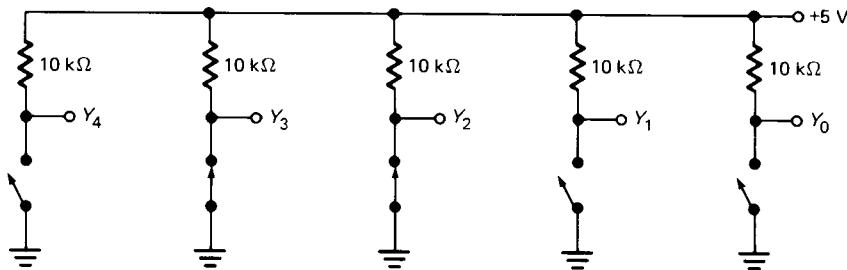

Fig. 1-10 A 5-bit switch register.
- 1-12.** Figure 1-10 shows a 5-bit switch register. By opening and closing the switches you can set up different binary numbers. As usual, high output voltage stands for binary 1 and low output voltage for binary 0. What is the binary number stored in the switch register? The equivalent decimal number?
- 1-16.** How would you set the switches of Fig. 1-10 to get a decimal output of 27?